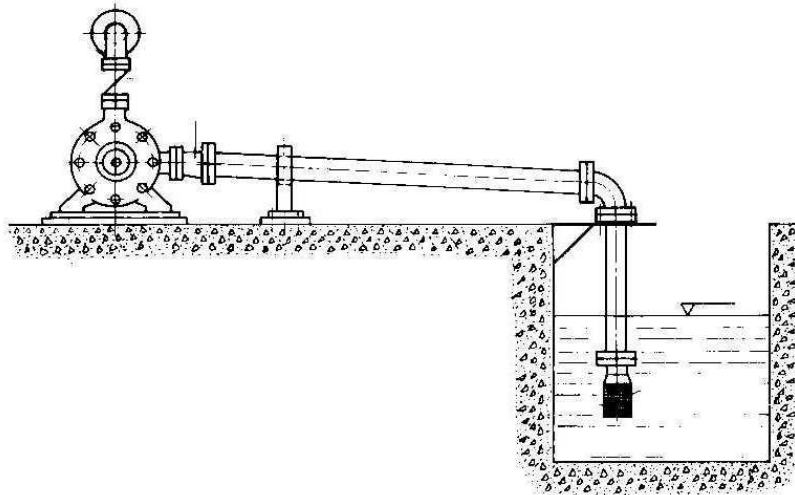

Fig. 36 - Suction lift line
The pipeline connected to the suction casing (106) is called either a suction lift line or a (positive) suction headline, depending on whether the pressure at the pump inlet is below or above atmospheric pressure. This line should be kept as short as possible (see Figs. 36 and 37).
Suction lift lines should rise all the way towards the pump; they should also be absolutely leak-tight and be laid in such a way as to prevent the formation of air pockets at any point (see Fig. 36).